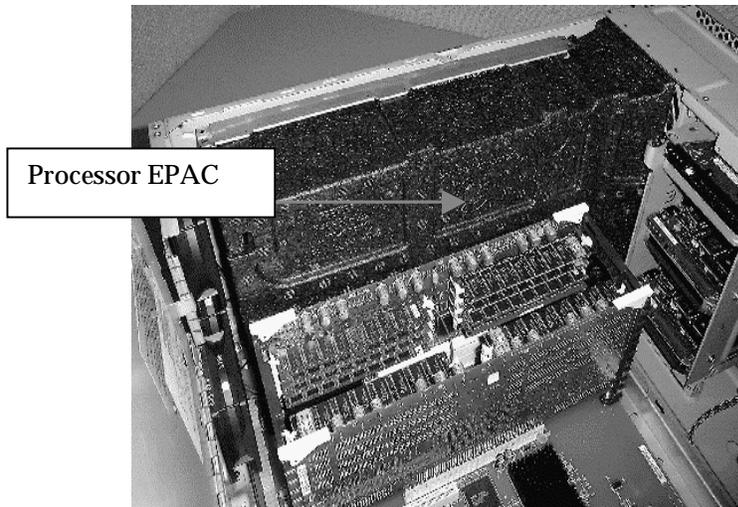
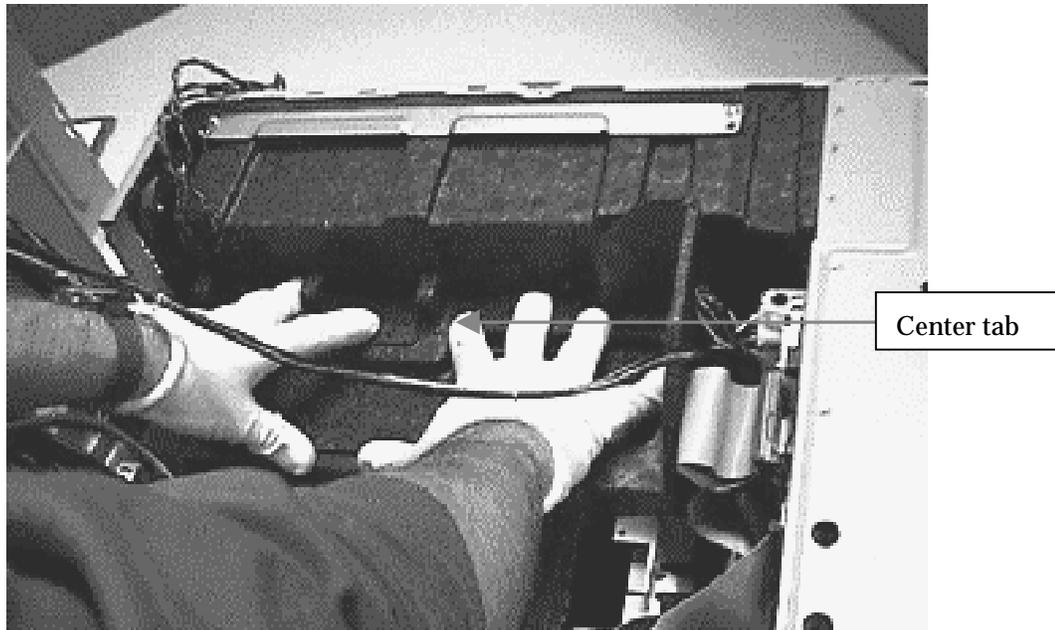

Figure 26 Correct reinstallation of air baffle
Figure 28 Air baffle installation
1. Ensure that the processor assembly is properly seated into the baseboard assembly and that the EPAC baffle is reinstalled over the processors (refer to Figure 26).
5. Now, place the baseboard air baffle over the memory cards as shown in Figure 26. The center tab should align with the air baffle of the processor assembly. Then position your fingers over the air baffle as shown in Figure 28 and push down. The air baffle should “pop” into place.